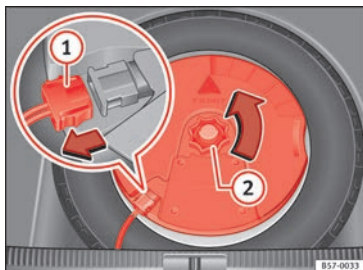

Fig. 256 In the luggage compartment: remove the subwoofer.
- Disconnect the *subwoofer's* speaker cable » **Fig. 256 ①**.
- Turn the securing wheel anti-clockwise **②**.